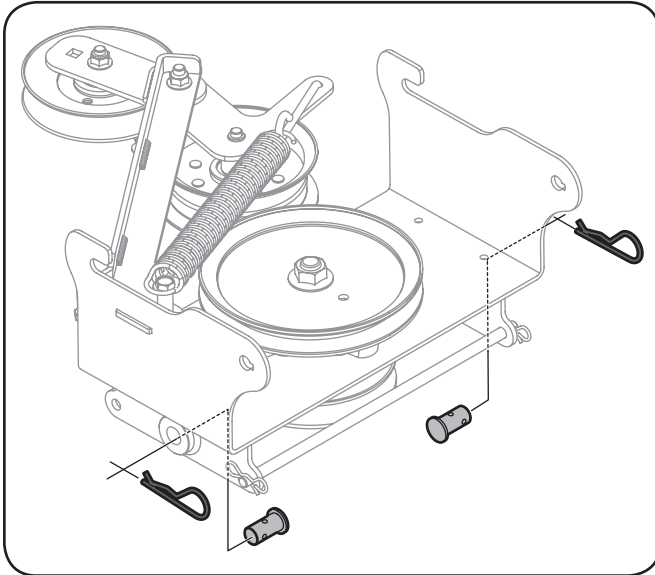

Figure 3-6
1. Remove the clevis pins and hairpin clips from the carriage assembly. Retain the clips and pins, as they will be used to attach components in later steps. See Figure 3-6.